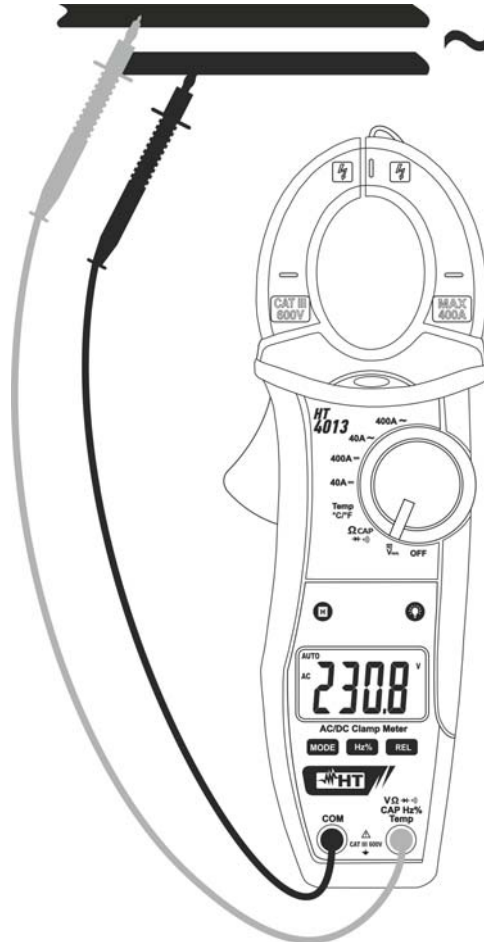

Fig. 4: Use of the clamp for AC voltage measurement
5. Position the test leads in the desired points of the circuit to be measured (see Fig. 4). The display shows the value of voltage.